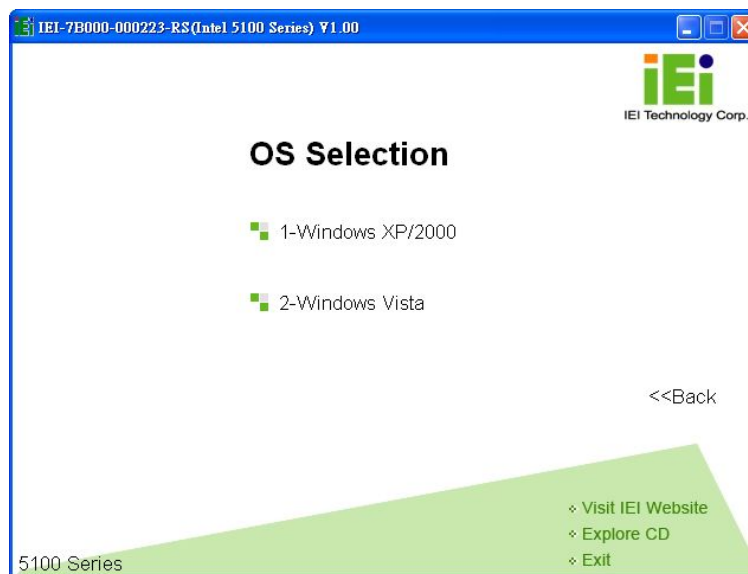

Figure 7-2: OS Selection Screen
Step 4: The OS selection window appears (**Figure 7-2**). Choose an OS option.